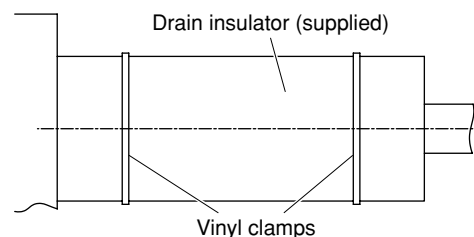

Fig. 3-105b
- (2) After connecting the drain piping securely, wrap the supplied packing and drain pipe insulator around the pipe, then secure it with the supplied vinyl clamps. (Fig. 3-105b)